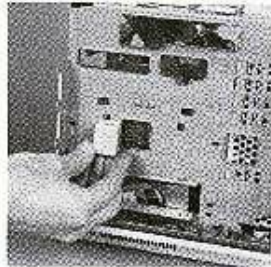

Figure 3-20
- a. Using the adhesive backing, attach the large rubber spacer supplied with the Outbound to the Macintosh chassis. Position the lower end of the spacer against the floppy drive bracket's tab and the right side of the spacer against the flange of the square opening. The angle of the spacer should parallel the angle of the Macintosh's chassis ramp. Figure 3-20 illustrates the correct placement of this spacer.